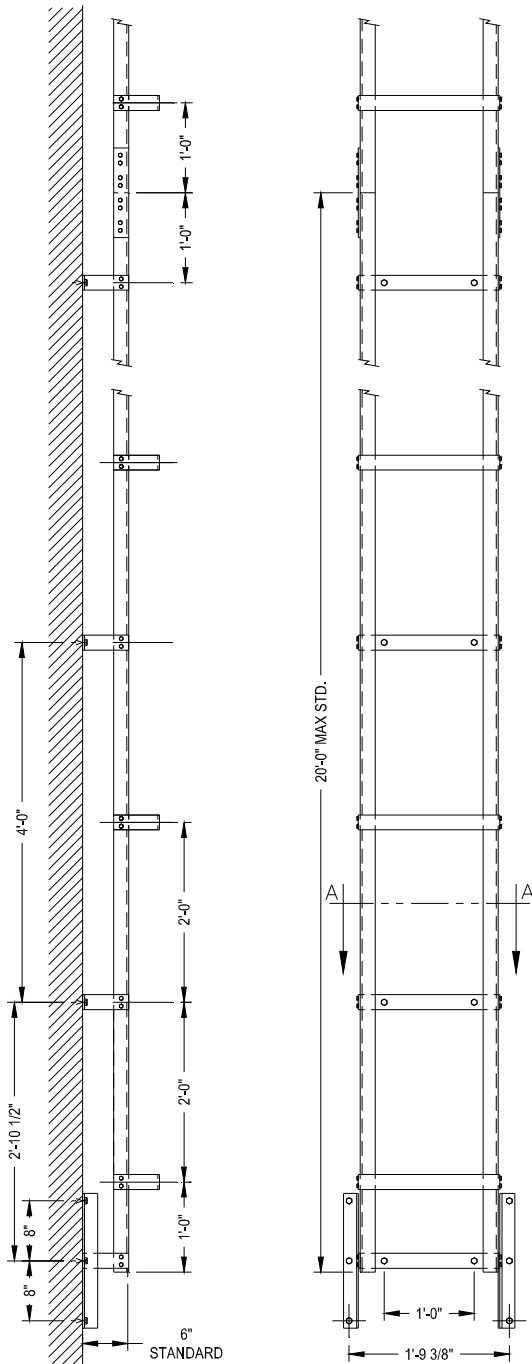
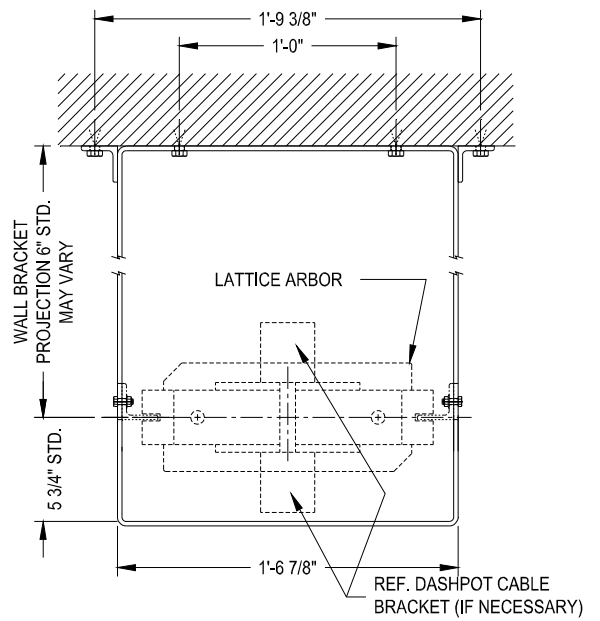

FIGURE 3 – LATTICE ELEVATION
FIGURE 4 – SECTION A-A
- v. Use 3/8" anchors and bolts which are suited to the wall material. See **FIGURE 4**. If the wall material lacks sufficient strength to support the anchors and guide system, it must be braced or replaced with suitable materials. Contact the building architect or engineer for direction. The standard formed brackets have mounting holes 12" (300 mm) apart and the wall brackets are located 4 feet (1.2 meters) apart vertically. See **FIGURE 3**. Special requirements will be indicated on shop drawings